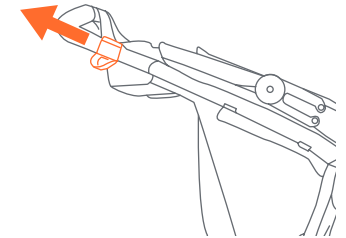
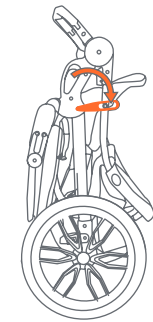

Fig. 19a
Fig. 19b
- Fold the stroller by pulling both release triggers (Fig. 19a). Press downward on the stroller handle until the stroller is completely folded. Lock the release lever on the right side of the stroller (Fig. 19b).